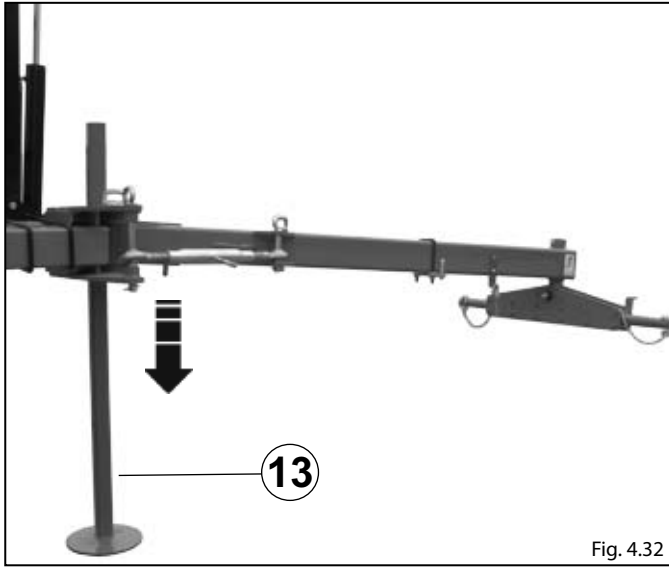

Fig. 4.32
- Lower the support foot **13** (Fig.4.32).
- Hook the towbar **14** al to the tractor hoist (Fig.4.32).